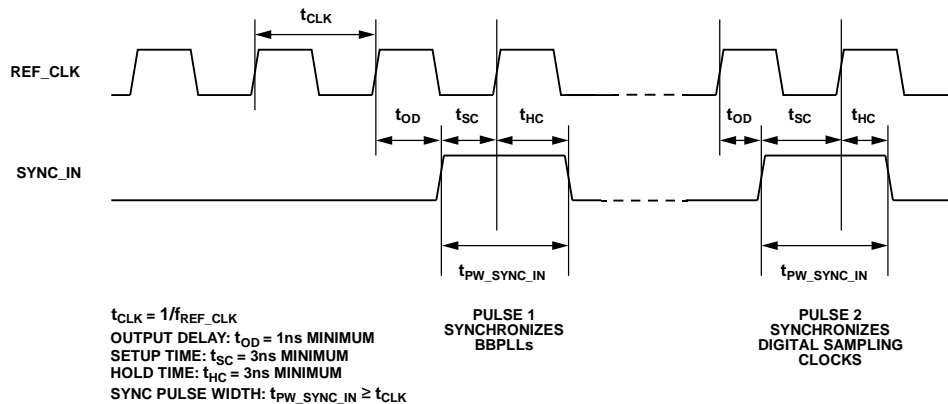
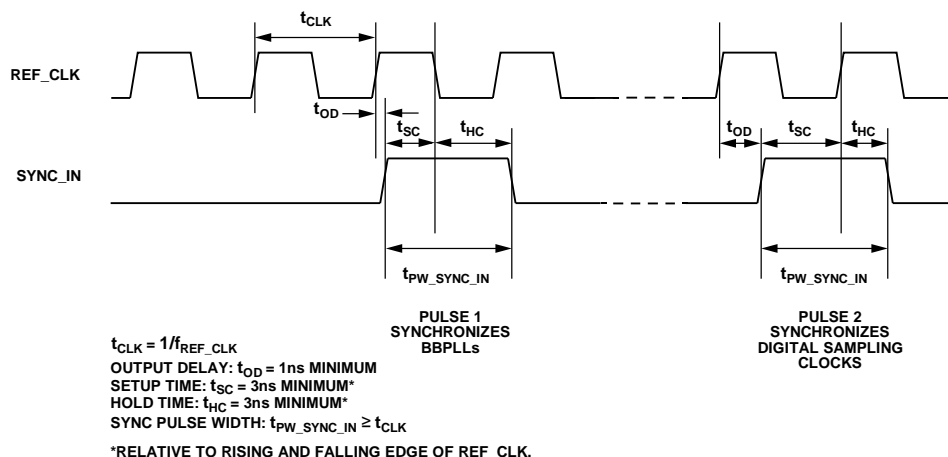
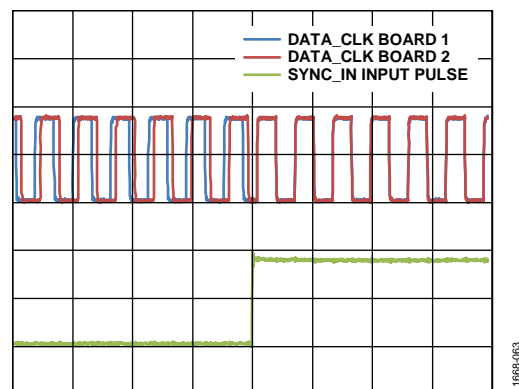

Figure 60. AD9361 BB Multichip Synchronization SYNC_IN Pulse Timing (BBPLL Internal REF_CLK Set to 1×)
Figure 61. AD9361 BB Multichip Synchronization SYNC_IN Pulse Timing (BBPLL internal REF_CLK Set to 2×)
Figure 62. Clock Signals of AD9361 IC1 and IC2 Before and After Second SYNC_IN Pulse (Initial Phase Random)
5. Input a rising-edge pulse to the SYNC_IN pin of each device. The timing requirements of this signal are illustrated in Figure 60 for the case where the internal BBPLL REF_CLK is a buffered version of the external REF_CLK and in Figure 61 for the case where the internal BBPLL REF_CLK is 2× the external REF_CLK. MCS cannot be used if the 1/2× or 1/4× options are selected for the internal BBPLL REF_CLK. Note that the SYNC_IN pulse rising edge must have a delay from the REF_CLK input to XTALN to ensure synchronization. This action synchronizes the BBPLL of each device to the same reference clock.
Data synchronization can be verified by observing the DATA_CLK signal of each chip simultaneously using an oscilloscope. The waveforms will overlap after successfully completing the sync procedure. Similarly, the CLK_OUT pin on each device (when enabled) can be monitored to determine if the ADC clocks are synchronized. Figure 62 illustrates the DATA_CLK signals of two devices before and after the second SYNC_IN pulse occurs. Note that the SYNC_IN pulse is much longer in duration than the DATA_CLK signals in this example. As long as the setup and hold times meet the requirements listed in Figure 60 and Figure 61, this is an acceptable combination because the SYNC_IN input is edge detected by the REF_CLK reference.